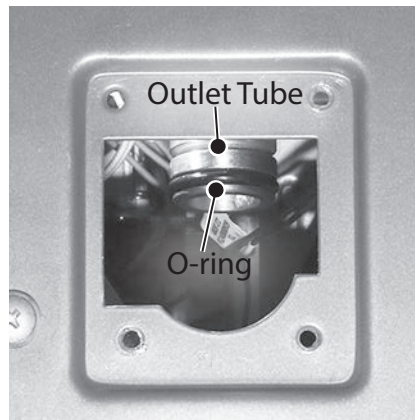

Figure 191 - Installing O-ring to water piping
- 20** Install the new large O-ring to water piping connection as shown in Figure 191.